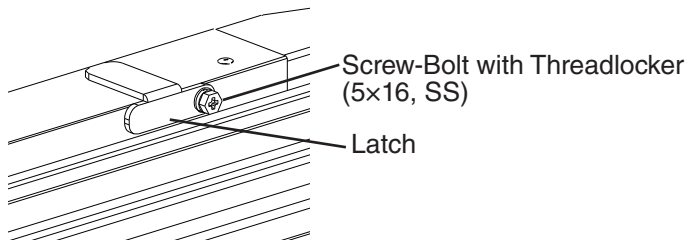

Fig. 27
- 11) Attach the lower door latch to the newly rotated lower door (former rotated upper door). See Fig. 27.